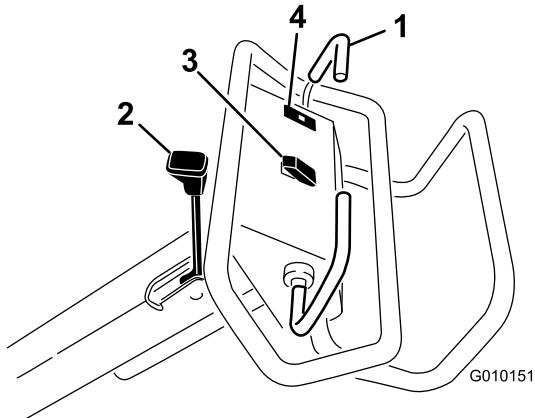

Figure 13
To move forward, move the traction lever forward. To move rearward, move the traction lever rearward (Figure 13).
To engage the parking brake, move the lever toward the engine. To disengage the parking brake, move the lever forward (Figure 13).
The oil pressure warning light (Figure 13) glows when the oil pressure in the engine drops below a safe level. If low oil pressure ever occurs, stop the engine and determine the cause. Repair the damage before starting the engine again.
**Raise**—Press the top of the switch (Figure 13) to raise the coring head and disengage the coring head. The engine must be running to generate lift pressure. If the coring head is below the transport height, refer to System Control Circuit Reset.
**Lower/Engage**—Press the bottom of the switch (Figure 13) to lower and engage the coring head. The traction lever must be in the forward position to activate the switch.